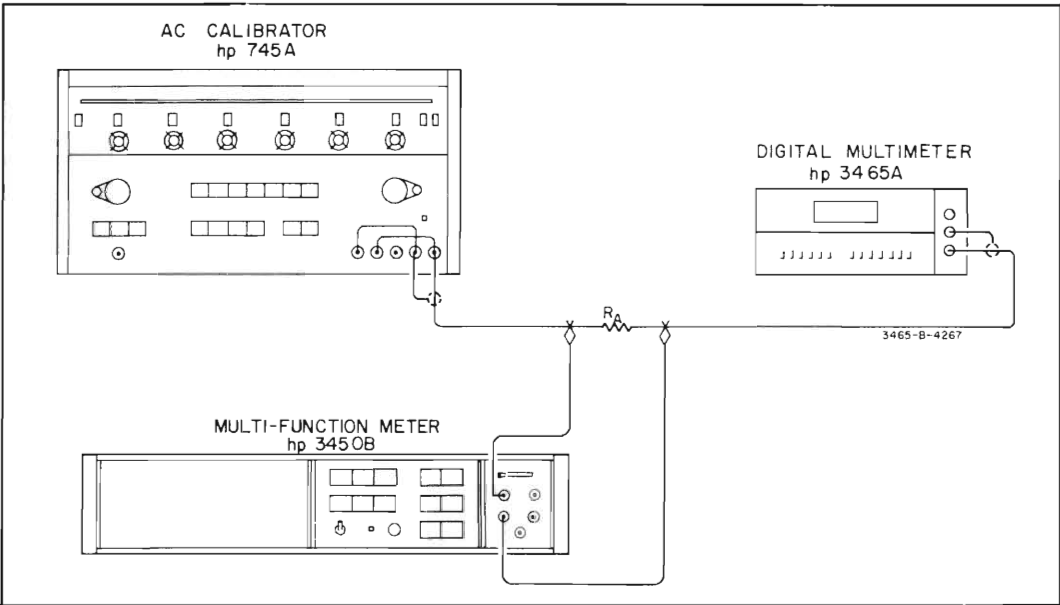

Figure 5-3. AC Ammeter Accuracy Test 100  $\mu$ A thru 10 mA Range.
a. Set the Multimeter function to ACA ( $\sim$  A) and range to 100  $\mu$ A. Connect the equipment as shown in Figure 5-3 using a discrete resistor for  $R_A$ . (To select  $R_A$ , note the
f. Reconnect the 3450B Digital Voltmeter as shown in Figure 5-3.